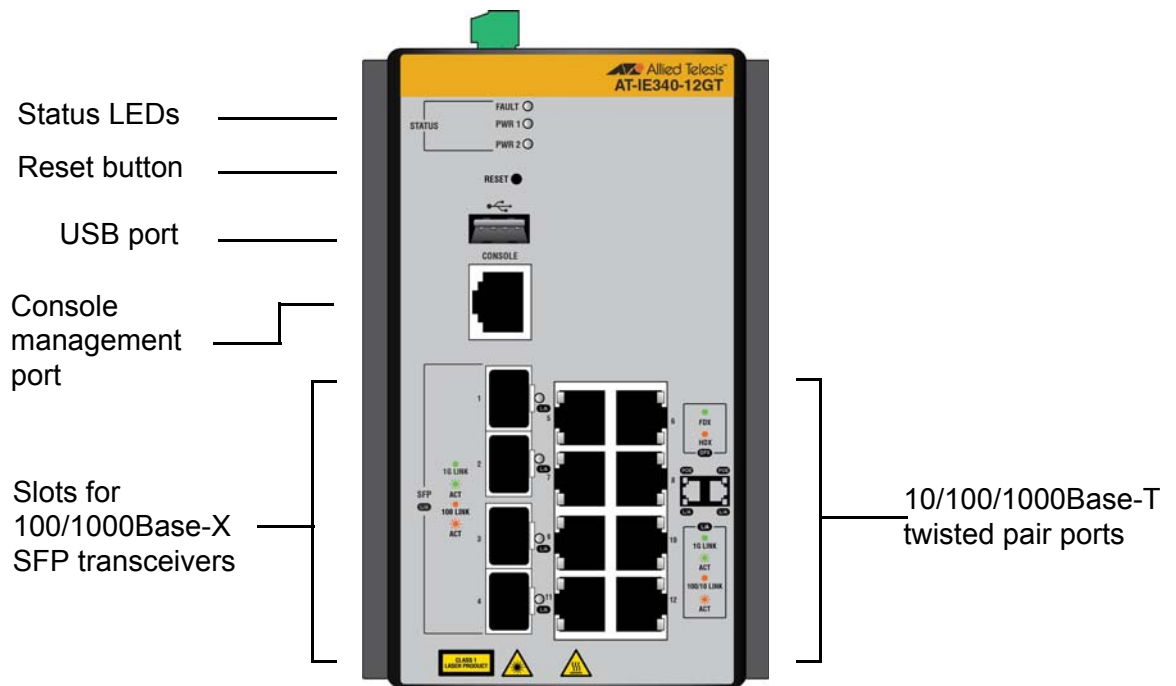

Figure 2. Front Panel of the IE340-12GT Switch
**IE340-12GT** The front panel of the IE340-12GT switch is shown in Figure 2.